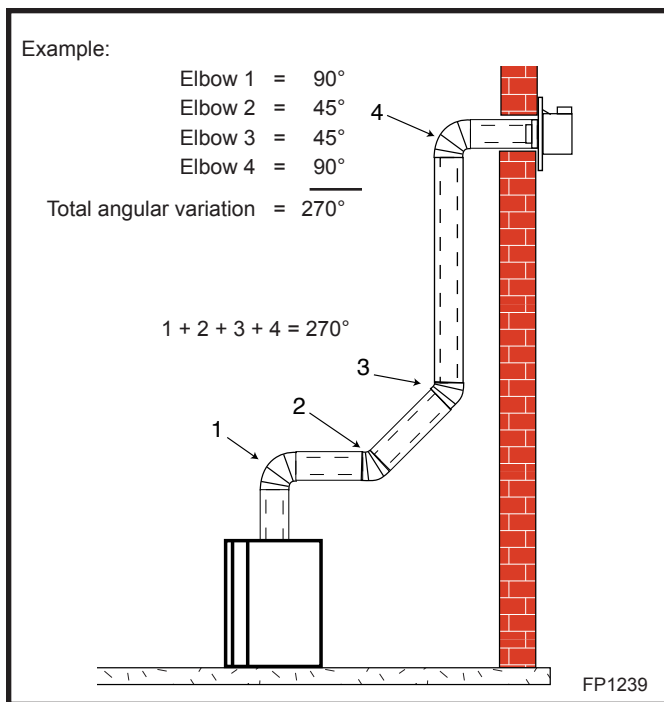

Fig. 42 Maximum number of elbow degrees.
- The maximum number of 45° elbows permitted per side wall installation is two (2). These elbows can be installed in either the vertical or horizontal run.
- The maximum number of elbow degrees in a system is 270°. (Fig. 42)